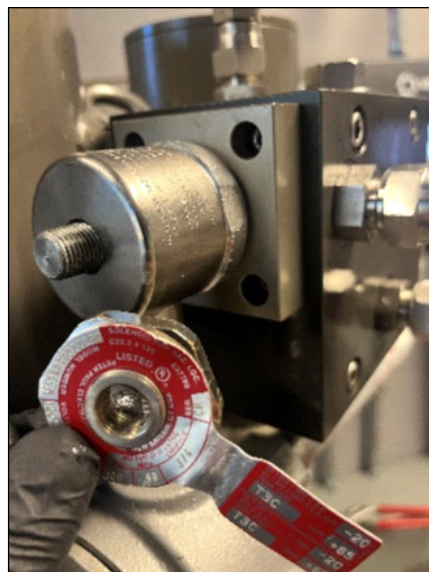

Figure 4. Remove Solenoid Lock Nut
4. Remove the lock nuts from both solenoid valves, the lock nuts can be identified by their red metal tags (see Figure 4).